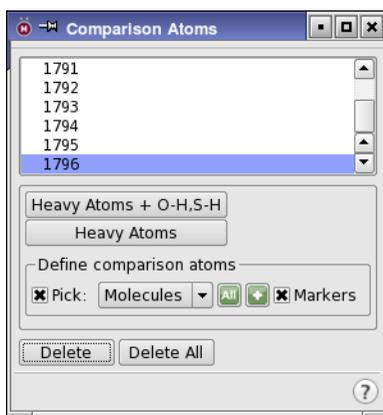

Figure 4.2. The Comparison Atoms panel.
5. From the Search variables option menu, choose Comparison Atoms, then click Edit, to open the Comparison Atoms panel (see Figure 4.2).